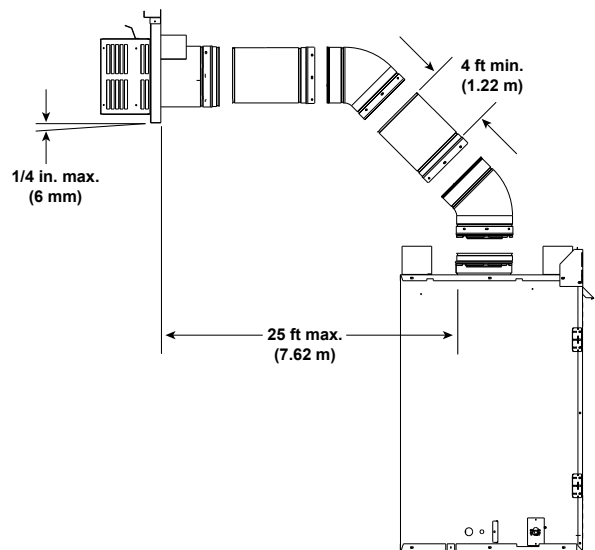

Figure 4.10
- Elbows may be placed back to back anywhere in the system as long as the first 90° elbow is a starter elbow except as shown in Figure 4.10.
- Horizontal termination cap should have a 1/4 inch downward slant to allow any moisture in cap to be released. See Figure 4.10.